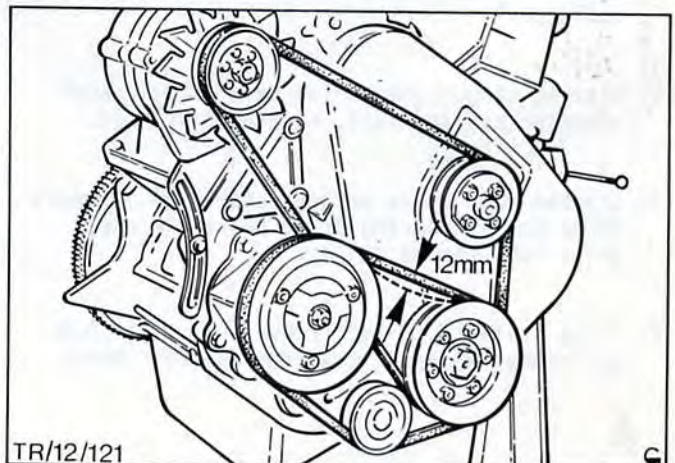

Fig.56. Check drive belt free play.
18. Refit drive belt, adjust belt tension to give a total free movement of 12 mm (0,5 in) on the longest span of belt, Fig.56.